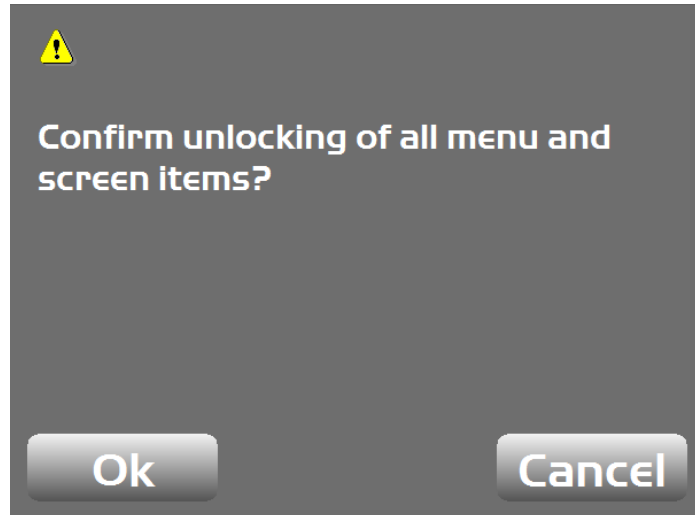

Figure 95: Confirm Unlocking of Items
4. Press the Power button on the display, then tap **Tools ▶ Release all locks**. A confirmation prompt appears (Figure 95).